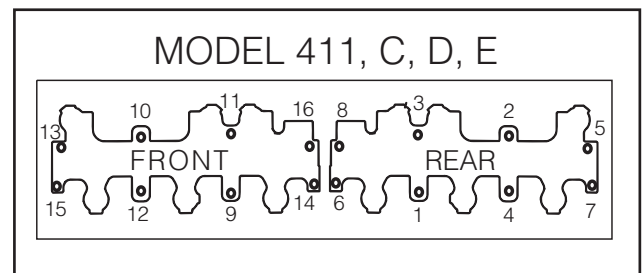

FIG. 13
7. Install the capscrews in the sixteen (16) locations and hand tighten following the sequence in Fig. 13. Complete the sequence by tightening the capscrews to 60 lb.-ft. (81 N•m).